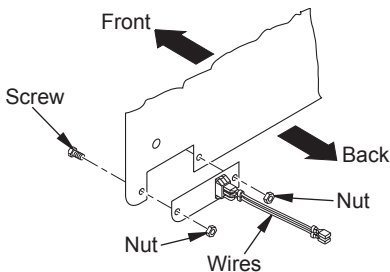

Figure 28 - Switch Plate and Wiring Harness (Switch Plate and Orientation May Vary Depending On Model)
3. Remove switch plate (see Figure 28). Discard after removing.